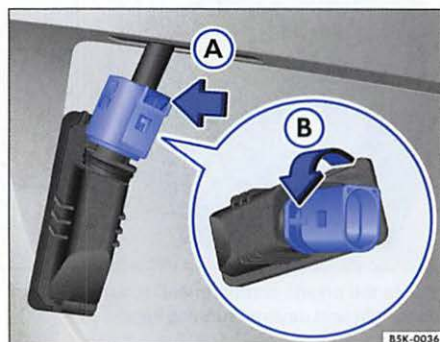

Fig. 4 License plate light: removing the bulb holder.
4.	Press the locking mechanism on the connector in the direction indicated by the arrow ⇒ fig. 4 (A) and disconnect the connector.
5.	Turn the bulb holder in the direction indicated by the arrow ⇒ fig. 4 (B).
7.	Insert the bulb holder in the license plate light and turn it counter-clockwise in the direction indicated by the arrow ⇒ fig. 4 (B) until it stops.